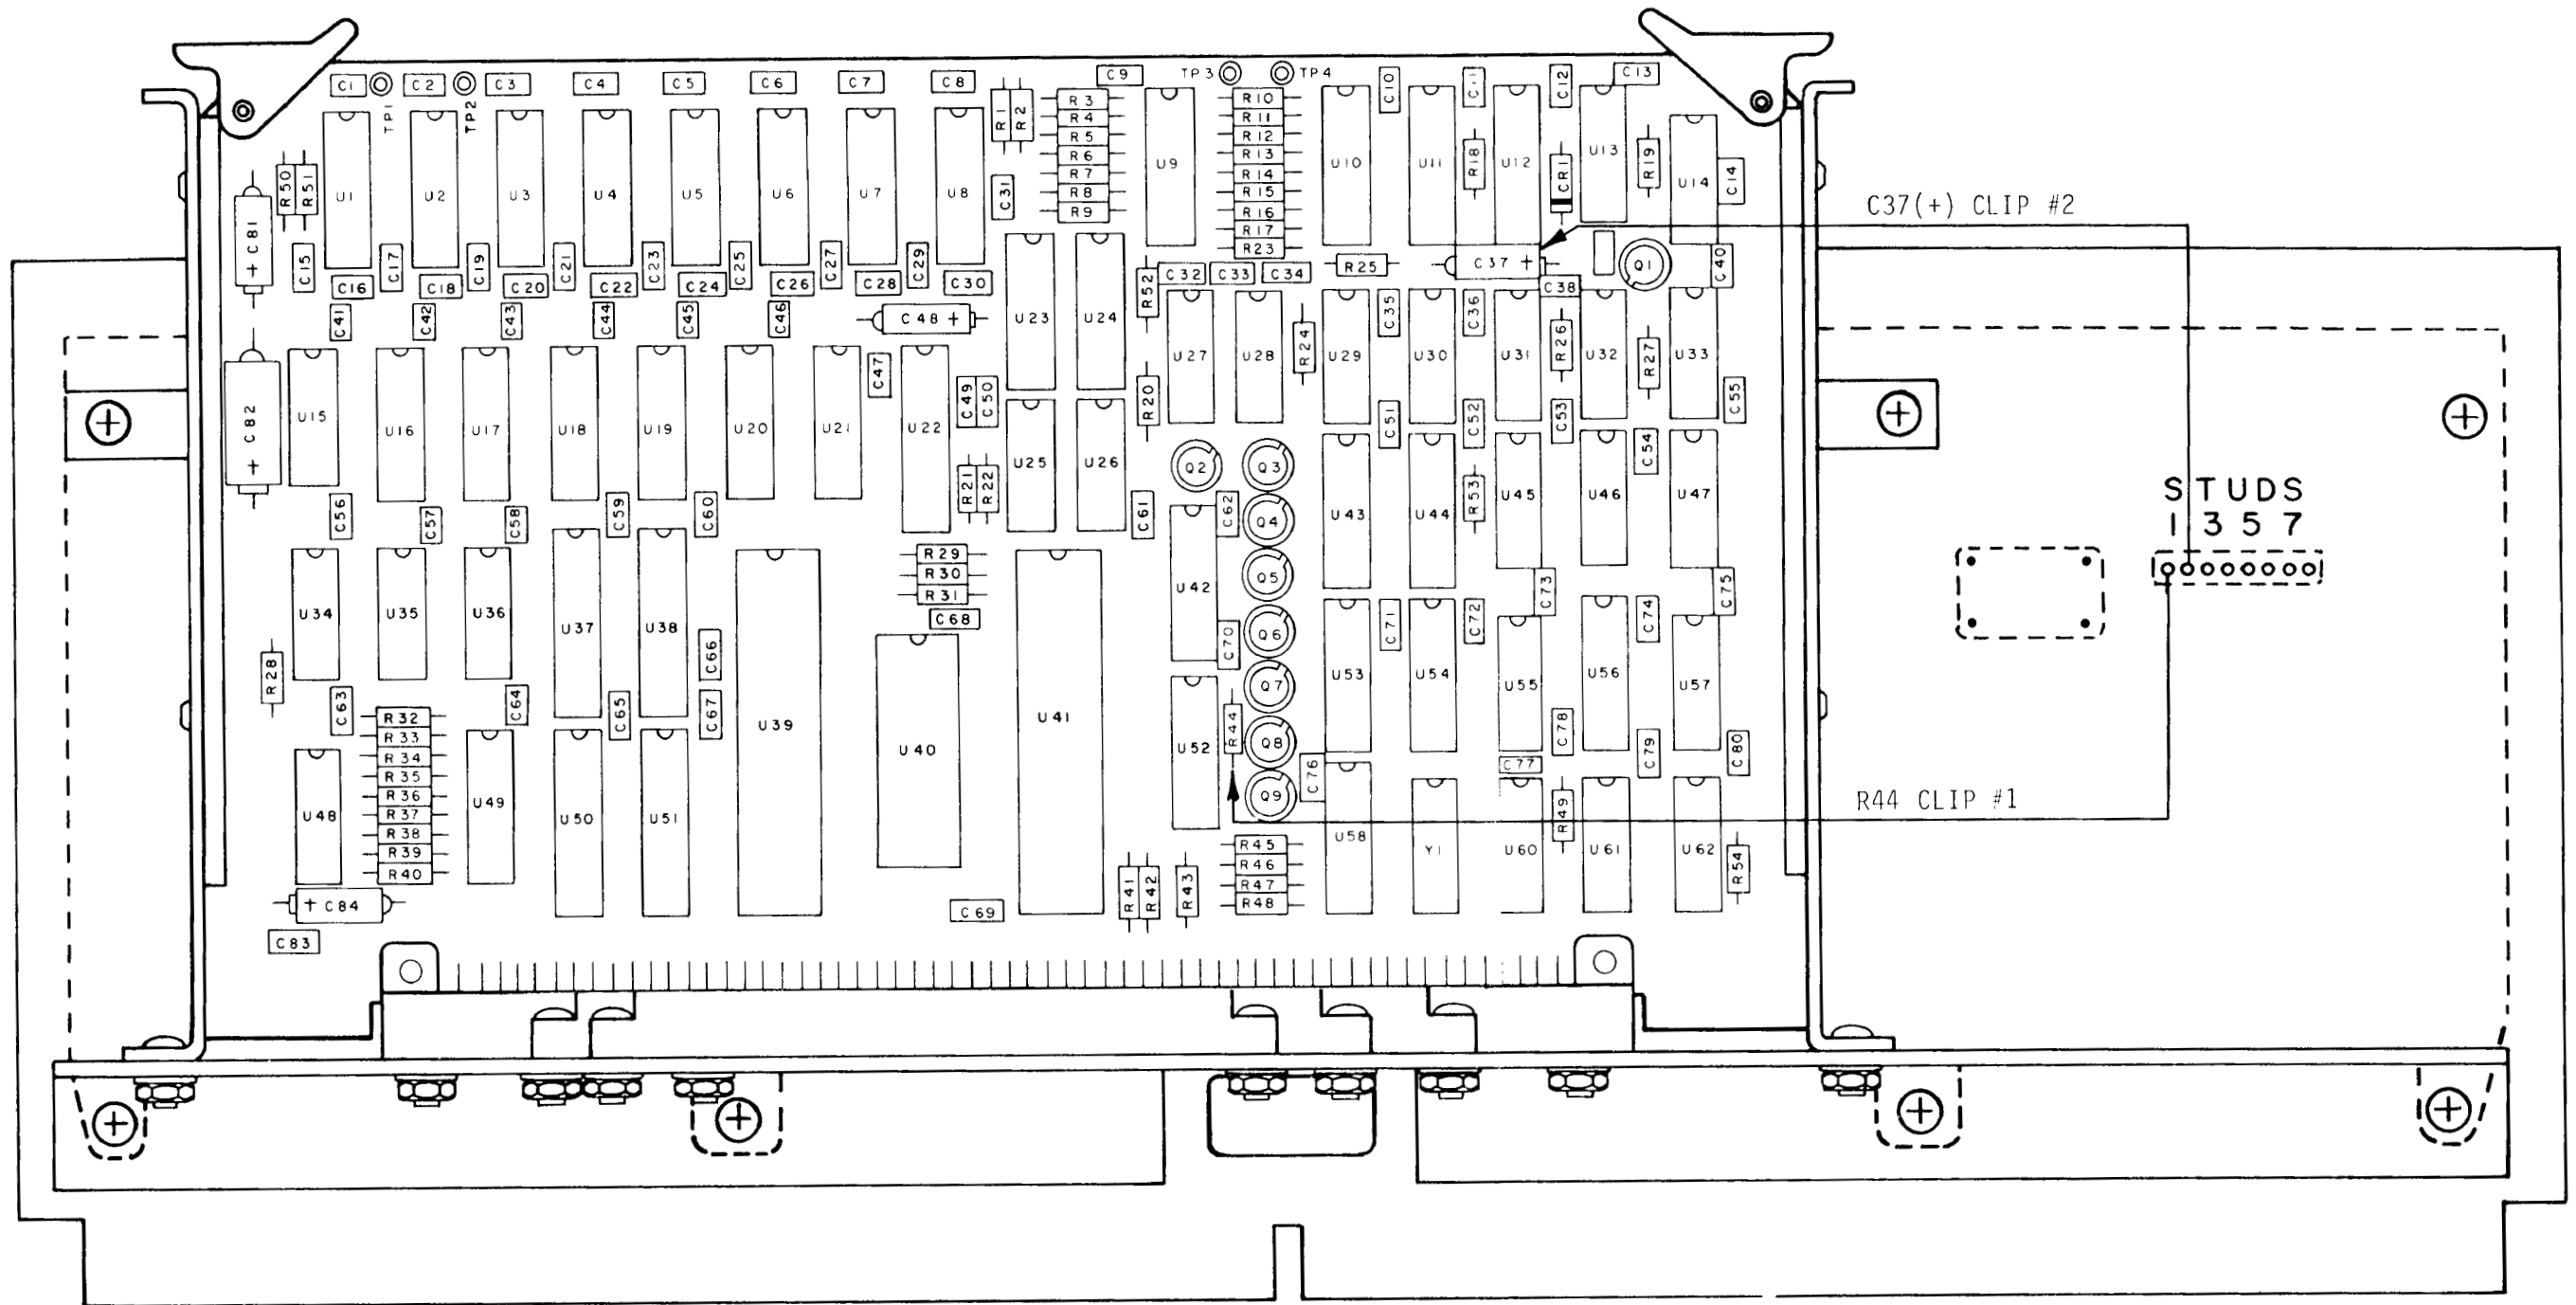

Figure 2-3.
(8) Attach test clips as shown in figure 2-3.